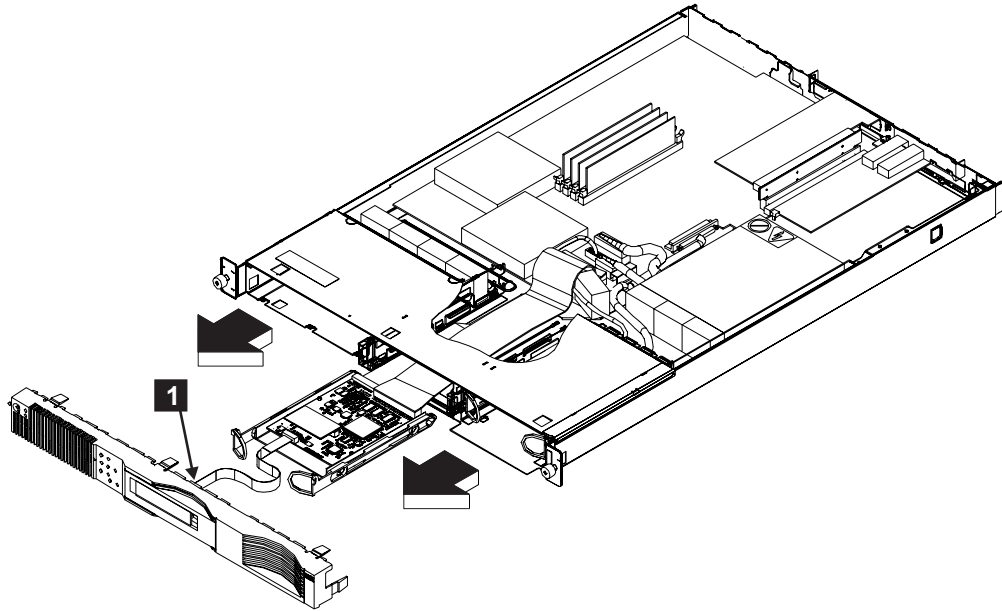

Figure 189. Removing the front panel of the SAN Volume Controller 2145-4F2
6. Disconnect the connector (1 in Figure 189).